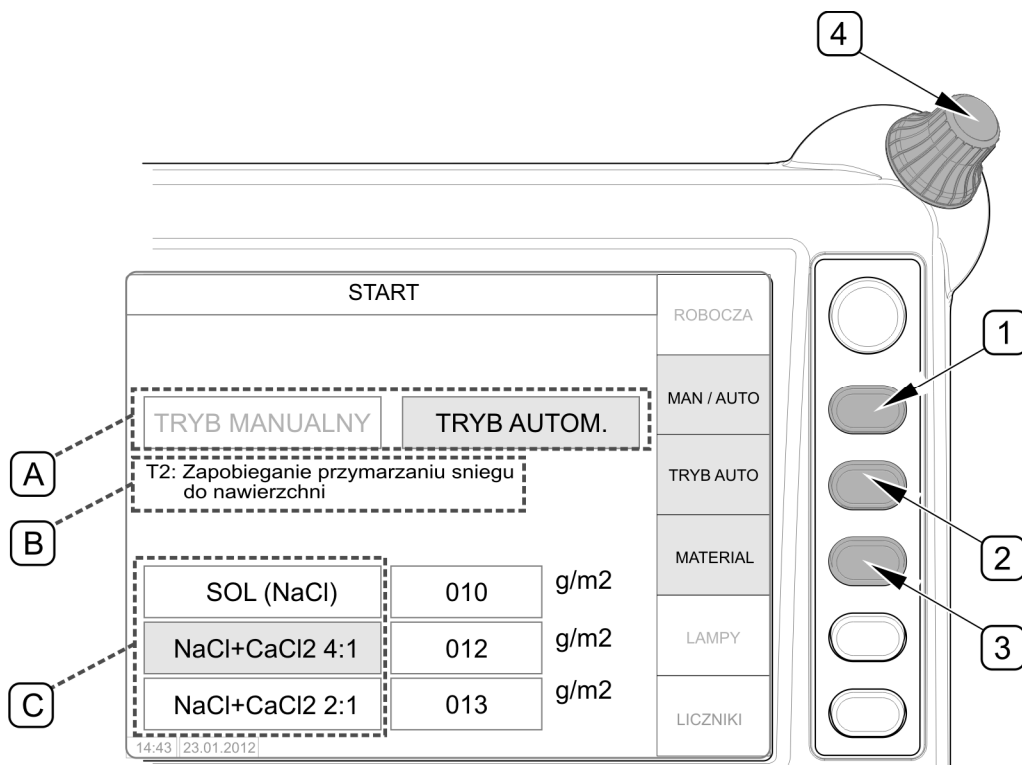

FIG. 4.33 Selection of automatic mode (option)
- on control panel home page ("START") (FIG. 4.33), select "AUTO MODE" in field (A) by means of push-button (1) „MAN / AUTO” on the display,
- select one of the defined modes (T1,T2,T3) in field (B) by means of push-button (2) "AUTO MODE",
- select type of spreading material in field (C) by means of push-button (3) (automatic mode can not be selected for "SAND" material)